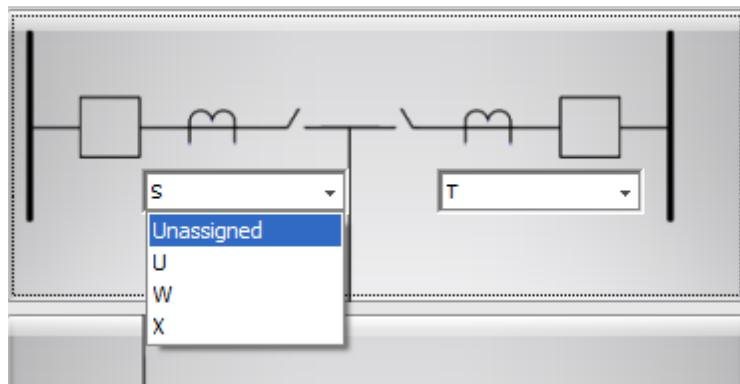

Figure 7.32 Unassign Winding S
Step 8. Choose T from the dropdown menu. If you want to reassign an already assigned winding, first unassign the winding (*Figure 7.32*), then choose from the available windings.